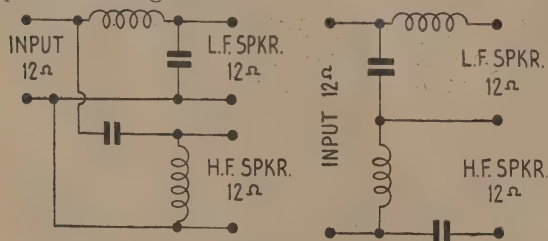
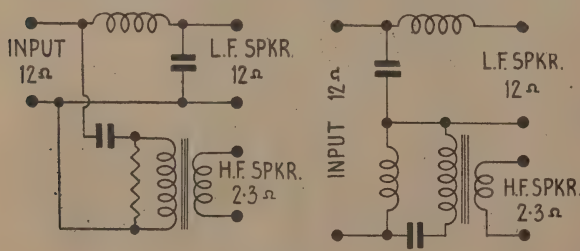

Fig. 1.
Fig. 2.
(2) As R.J.C. points out, practically all dividing networks are designed for speakers of equal voice-coil impedance. The figure 1 shows two simple networks that can be used, one of the parallel and the other of the series kind. Fig. 2 shows how the